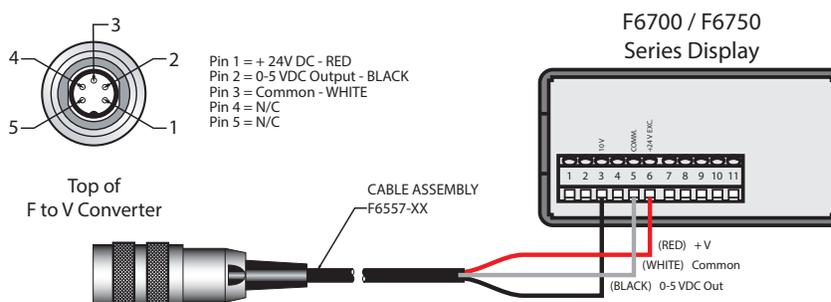

Figure 4: Flo-tech IFC flow sensor wiring
- Connect the RED wire of the F6557 cable to terminal 6 (+24 V EXC) on the F6700 series display. See Figure 4.